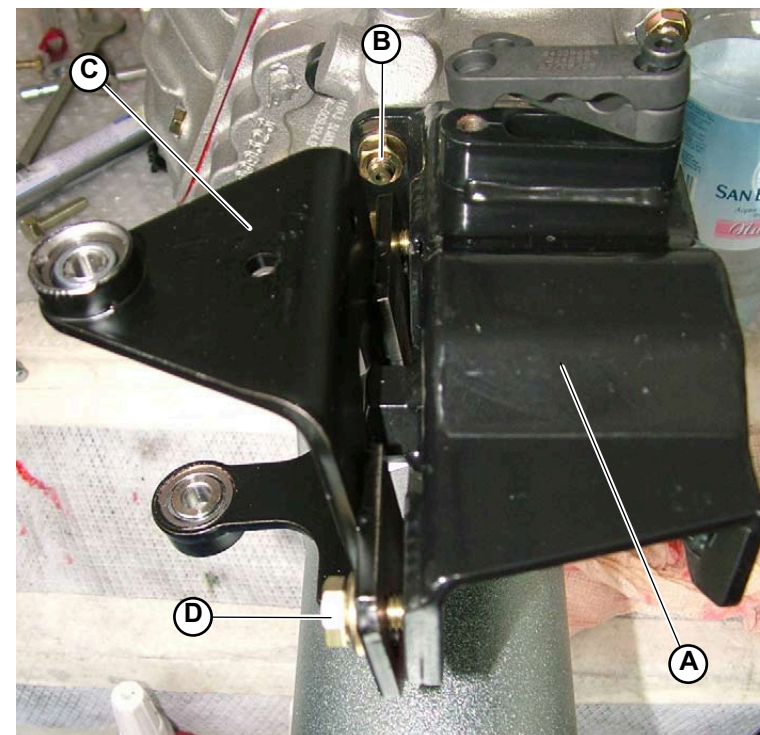
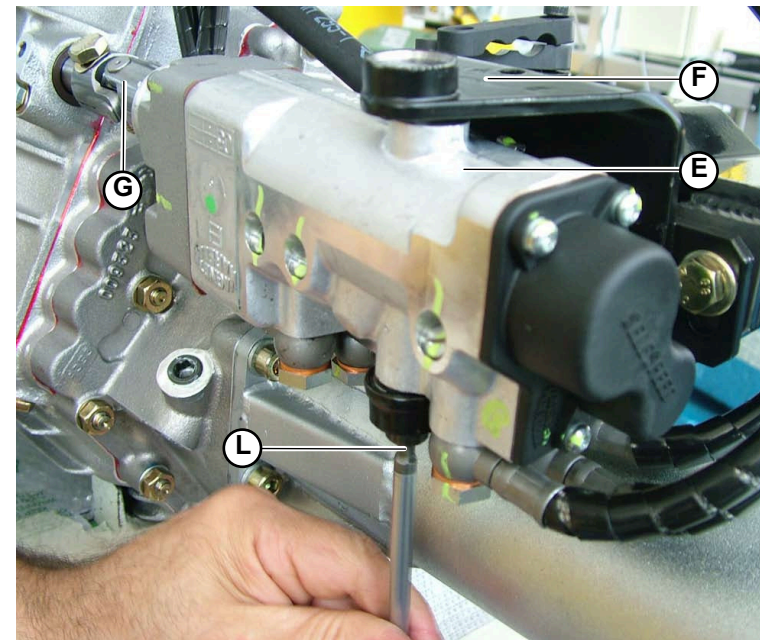
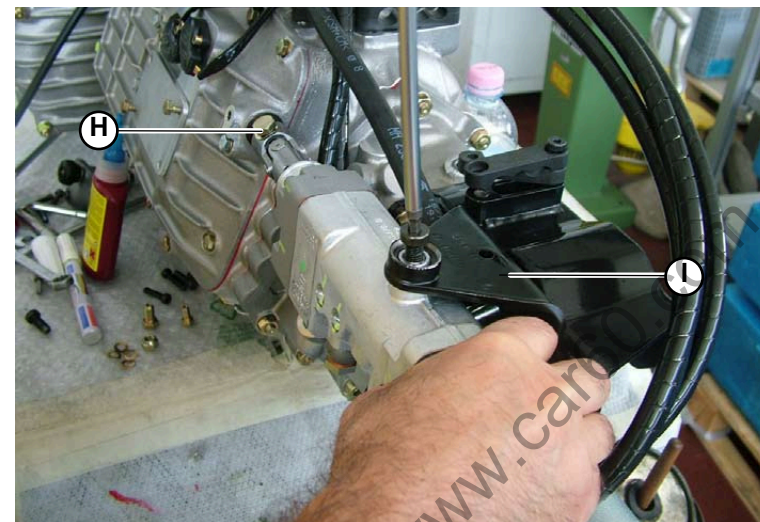

Fig.1
Fig.2
Fig.3
1. Assemble the bracket (A-Fig.1) on the gearbox, tightening the 4 screws (B-Fig.1).
2. Anchor the bracket (A-Fig.1) to the bracket (C-Fig.1) using the 2 screws (D-Fig.1).
Do not tighten the screws (D-Fig.1). Leave them loose.
3. Position the actuator (**E-Fig.2**) on the bracket (**F-Fig.2**).
4. Secure the actuator's coupling (**G-Fig.2**) using the screw (**H-Fig.3**).
Do not tighten the screw (H-Fig.3). Leave it loose.
5. Secure the actuator to the bracket by tightening the upper screw (**I-Fig.3**) and the lower screw (**L-Fig.2**).
10. Following correct alignment, tighten the 2 screws (**D-Fig.1**) that secure the bracket (**C-Fig.1**) and tighten the screw (**H-Fig.3**) that secures the coupling (**G-Fig.2**).